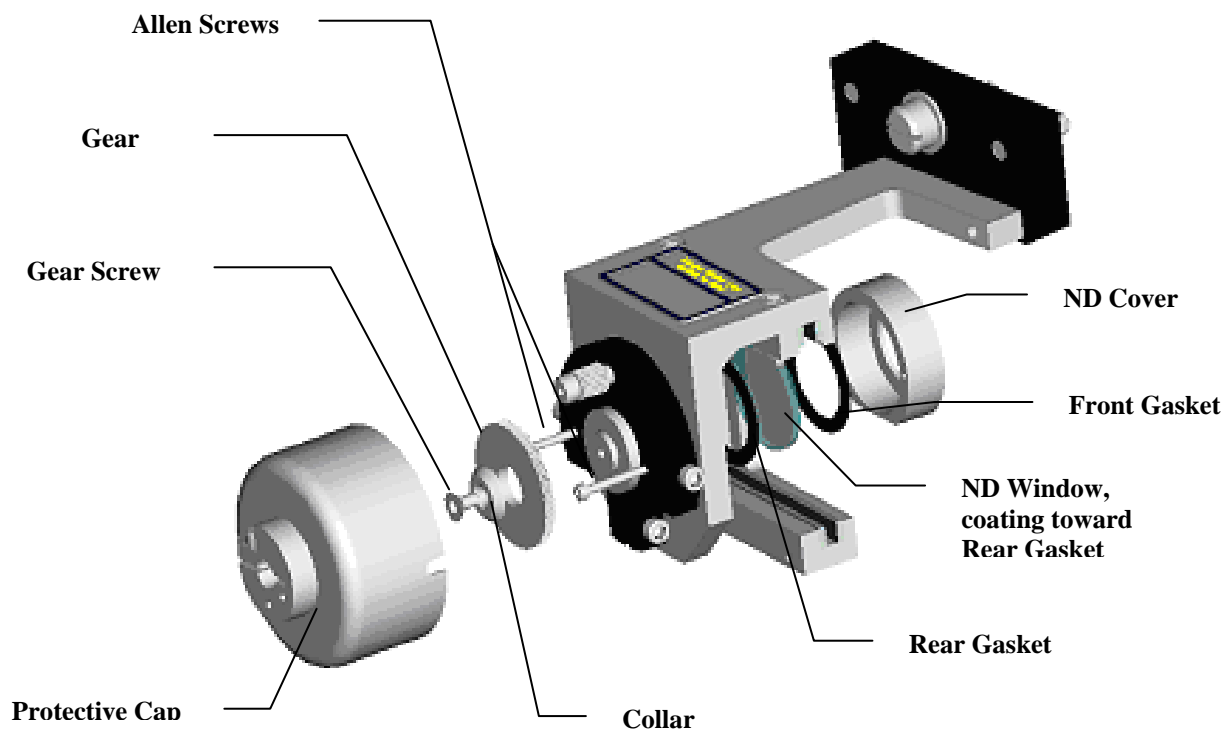

Figure 8-8
1. Loosen the cap screws and remove the cover that protects the Iris Adjustment Mechanism. See Figure 8-8.
2. Remove the gear screw, collar and gear. See Figure 8-8.
3. Remove the 2 Allen head screws holding the ND Cover. See Figure 8-8.
4. Remove the ND cover, front gasket, ND window and rear gasket. See Figure 8-8.
5. Re-assemble the rear gasket, new ND window, front gasket and ND cover as shown in Figure 8-8. **Note: The ND window must be installed with the coating side IN toward the rear gasket.**
6. Re-install the gear, collar and gear screw. See Figure 8-8.